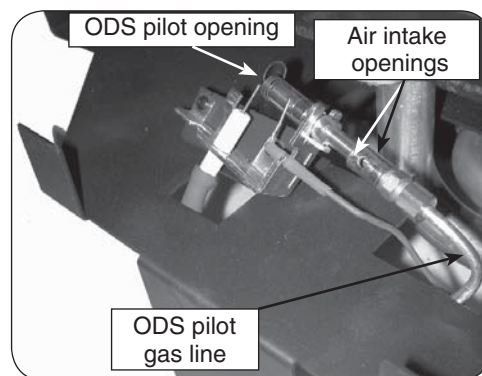

Fig. 26-1
1. Turn the unvented gas log set to the **OFF** position and allow it to cool. Inspect the ODS pilot area (see Fig. 26-1) for any visual contamination or debris (usually lint, hair, spider webs, or small insects). Lightly brush off all external surfaces while vacuuming loosened debris from the ODS pilot opening. **Be careful not to brush any foreign material into the ODS pilot opening.**
5. Relight the ODS pilot and inspect it to be sure it is burning as shown in the instructions. If not, extinguish the ODS pilot and **turn off the gas supply to the gas log set.** Using an adjustable or a 1/4" wrench, disconnect the ODS pilot gas line (see Fig. 26-1) from the valve.